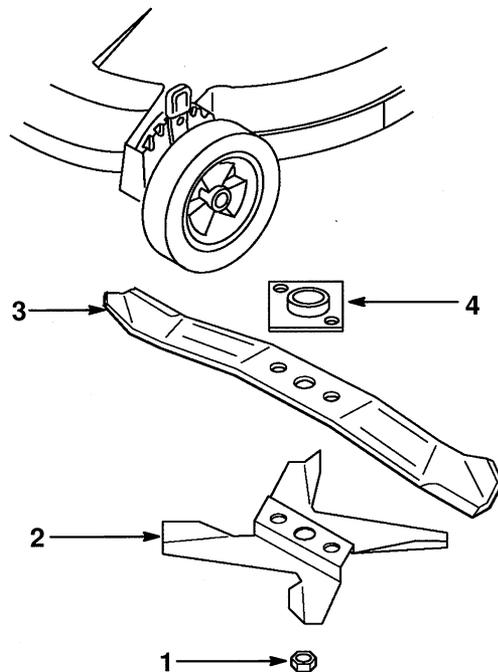

Figure 25
2. Remove blade nut and mulching fan (Fig. 25)
3. Remove blade from blade driver (Fig. 25).
1. Install blade driver onto crankshaft (if removed) (Fig. 25).